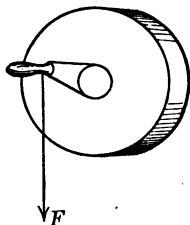

FIG. 42. — Crank on grindstone.
8. How would you calculate the moment of the force  $F$  as applied to the grindstone in figure 42?